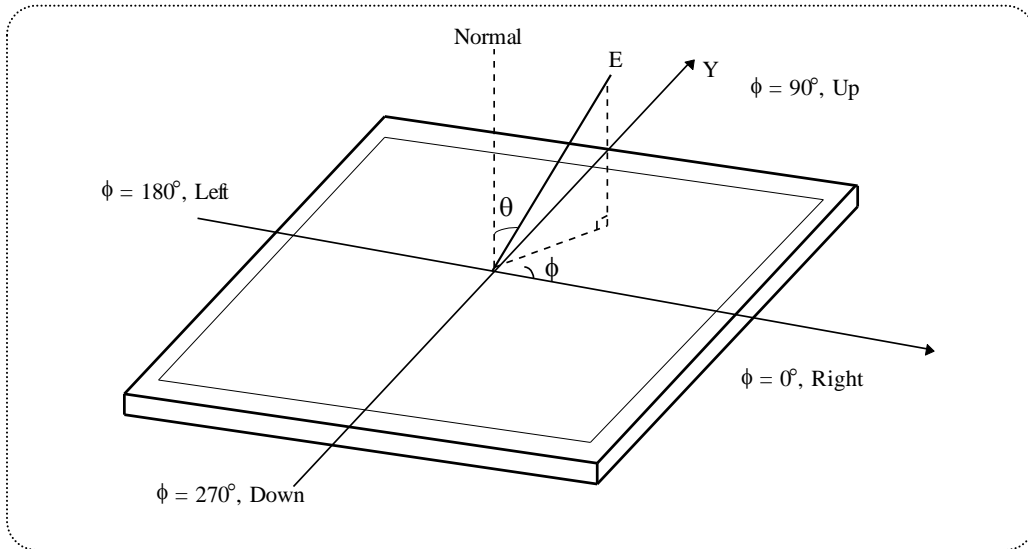

FIG.10 Viewing angle
6. Viewing angle is the angle at which the contrast ratio is greater than 10. The angles are determined for the horizontal or x axis and the vertical or y axis with respect to the z axis which is normal to the LCD surface. For more information see FIG.10 **(By PR880)**